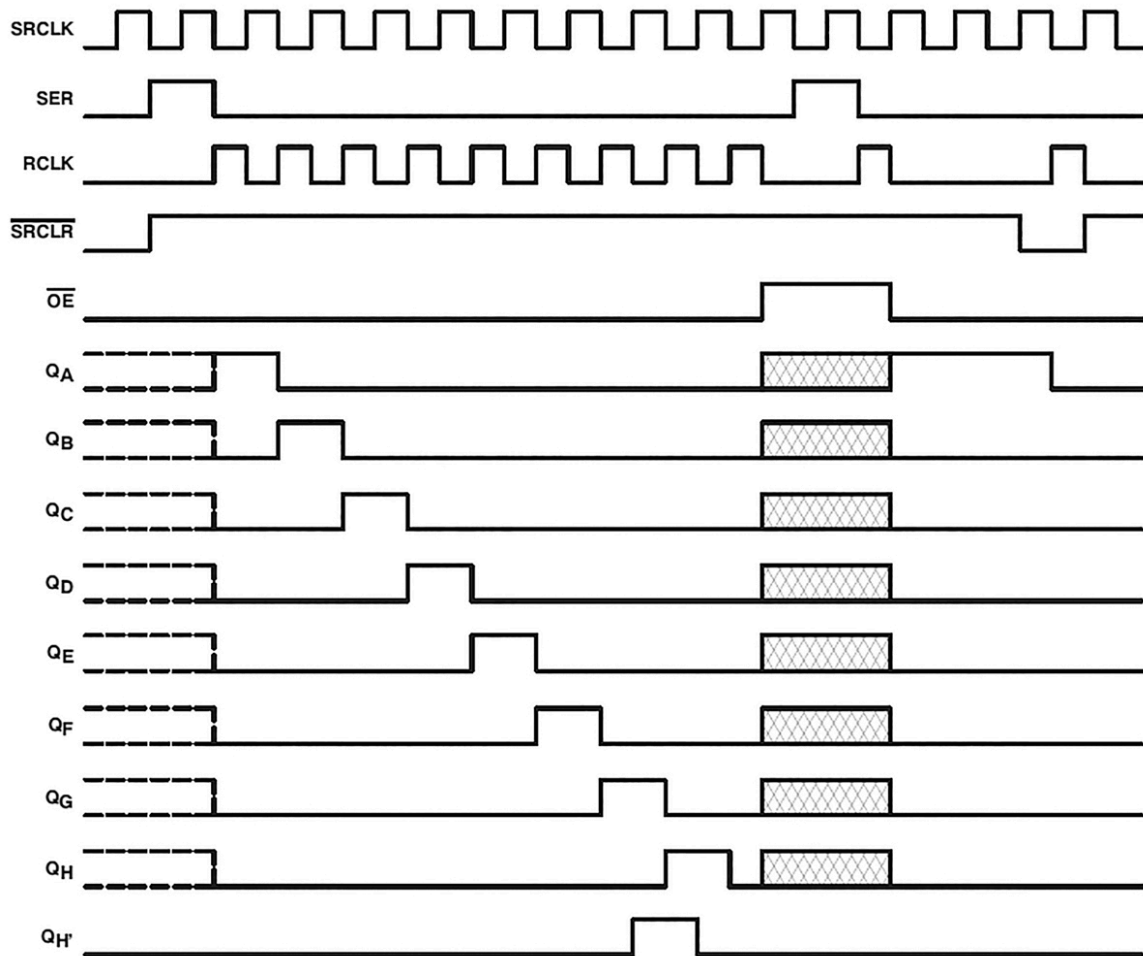

Figure 11-9: The 74HC595's timing diagram
The code contains a couple of custom functions, the first being `setupSPI()` ❶. We use this function to initialize the SPI bus and set the SS pin to high, then set the SPCR register as explained earlier in this chapter. We set the DORD bit in the SPCR register to 1, as we need to send data to the 74HC595 with the LSB first. We can see the requirement to use the 56LSB first from the timing diagram in the 74HC595's data sheet, shown in Figure 11-9: Q_A (the first output pin) is the first to be set high.